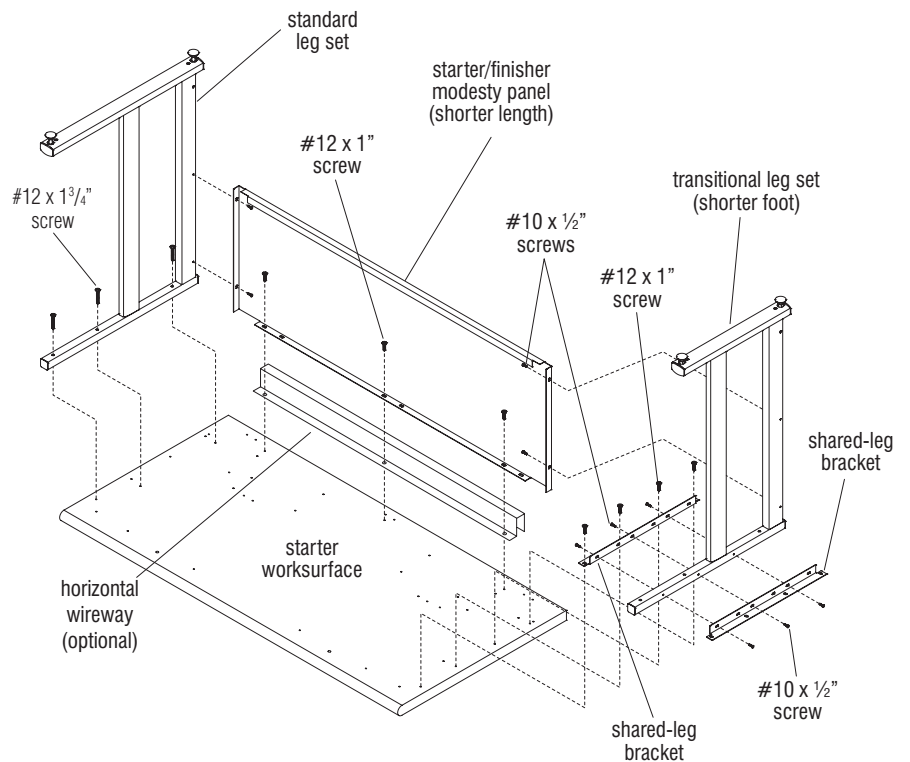

Figure 1 - Starter Worksurface
- Begin assembly by installing two shared-leg brackets to a transitional leg set (leg with shorter foot). Use three #10 x 1/2" screws per bracket to secure (Figure 1).
- To avoid scratching top, carefully lay worksurface upside down on a soft, protective surface. Install the transitional leg set to the underside of the worksurface at pre-drilled holes using four #12 x 1" screws. The transitional leg will be "shared" so should be installed to the mounting holes closest to the edge of the worksurface such that the center line of the leg is directly over the end of the table (Figure 1).
5. As in step 1, Figure 1 earlier, begin assembly by installing two shared-leg brackets to a transitional leg set (leg with shorter foot). Use three #10 x 1/2" screws per bracket to secure (Figure 1).